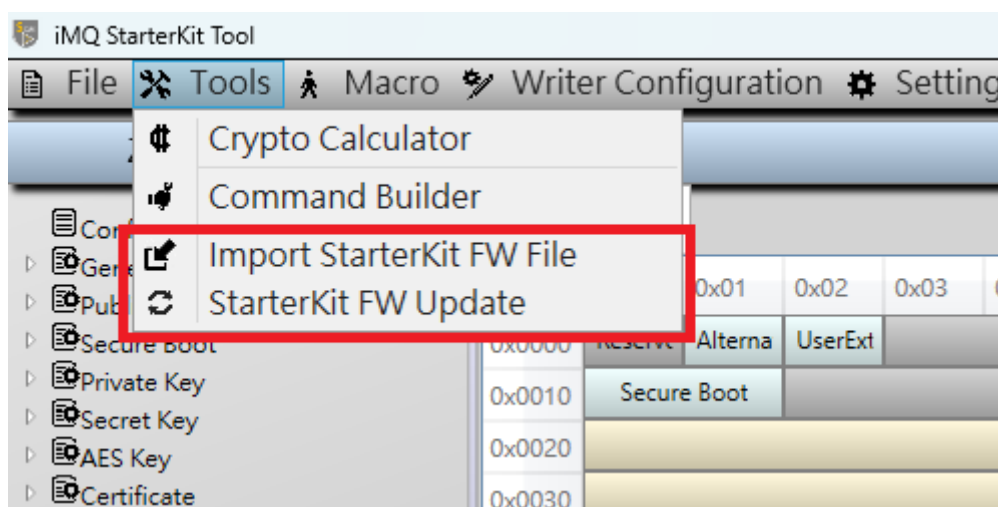

Figure 13 StarterKit GUI firmware update related menu items.
7. If you click the submenu item "StarterKit FW Update", the procedure is the same as the submenu item "Import StarterKit FW File" except for the first step of importing FW file (Figure 13) is not included.